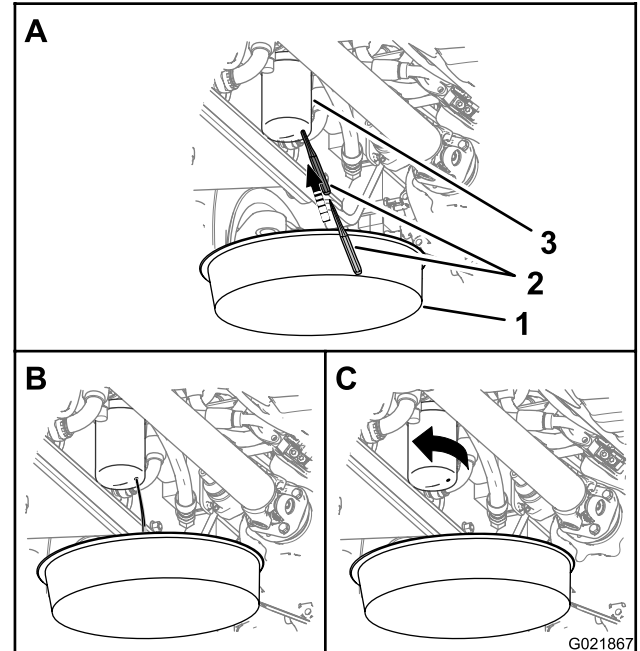

Figure 94
Note: You can access the hydraulic-pressure filter from under the right side of the machine, behind the hydraulic reservoir (Figure 94).
- Place a container under the hydraulic-pressure filter (Figure 94).
- Puncture the bottom of the hydraulic-pressure filter, and allow the residual hydraulic fluid to drain into the container (Figure 94).
- Rotate the hydraulic-pressure filter counterclockwise and remove the filter (Figure 94).